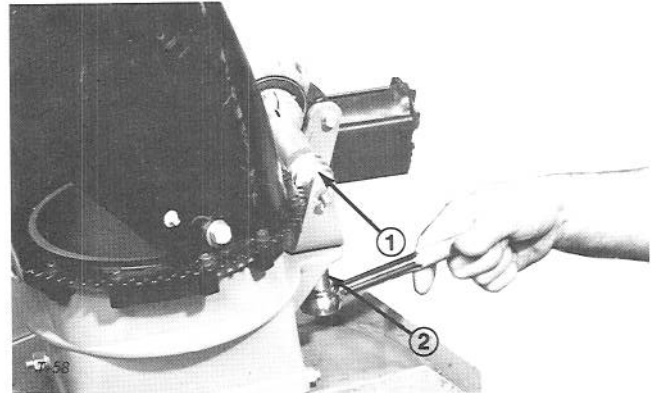

Figure 19
10. Actuate switch and observe mesh of chute gear and chute ring. Chute gear should mesh with ring as close as possible without binding (Fig. 19). Adjust mesh, if necessary, by loosening chute gear fasteners and sliding chute gear mount in or out (Fig. 19).